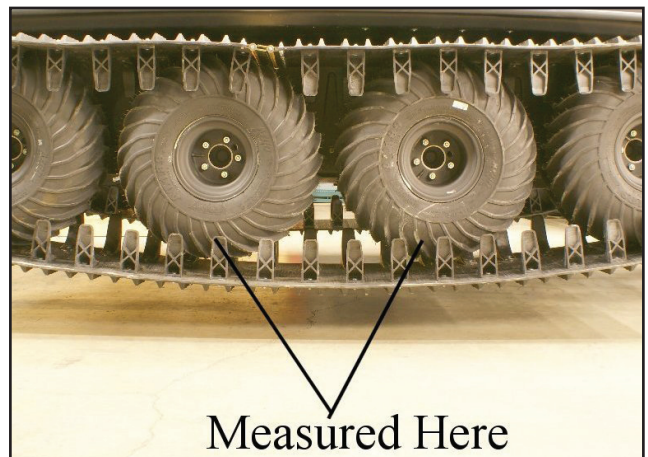

Figure 11-11. Measuring the gap of the mid tires
12. Re-inflate the tires as shown in the chart. With the tires installed and inflated as shown in the chart, there should be 2 to 3 inches between the bottom of the second (or third) tire and the inside surface of the track when the vehicle is elevated. See Figure 11-11 and Figure 11-12. This may require the installation of a track extension or additional hinge kit. The extension can be easily removed if the wheels slip within the track during winter use. **NOTE: Putting too much tension in the track will severely stress the axles, bearings and frame.**